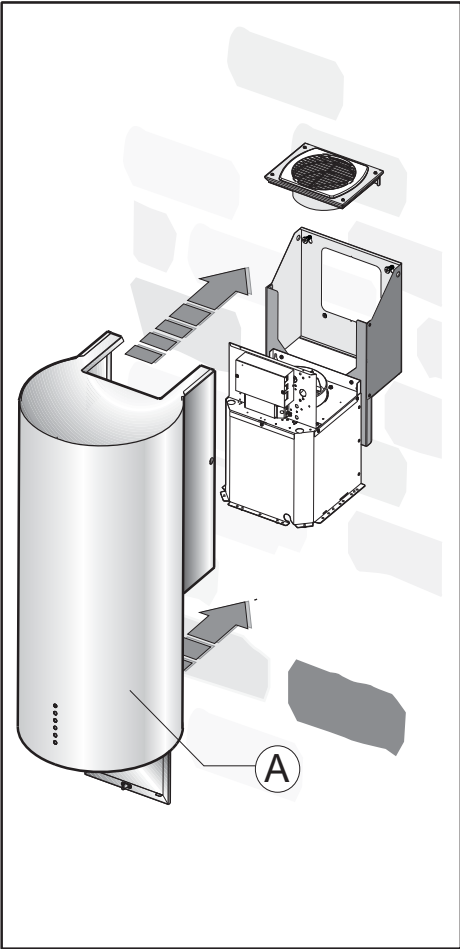
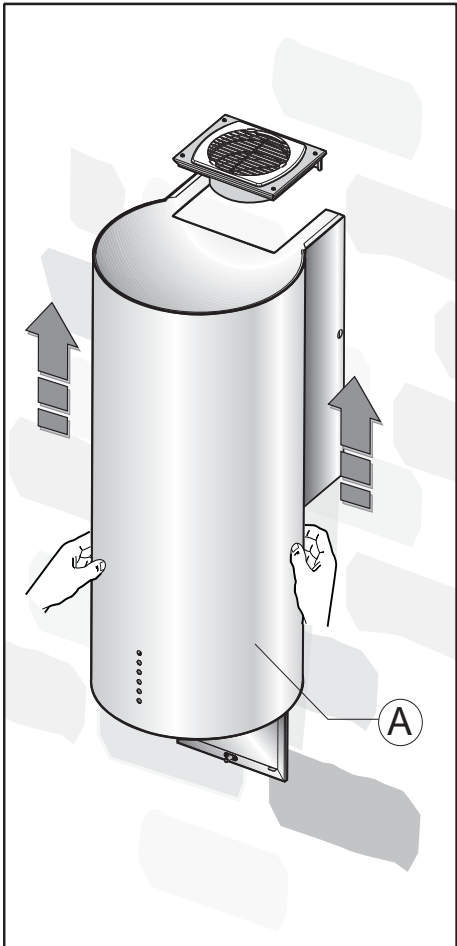

Fig.7
Fig.11
- Position the bodywork **A** against the wall (Fig. 7) and align it with the frame, pushing it upwards (Fig. 11).